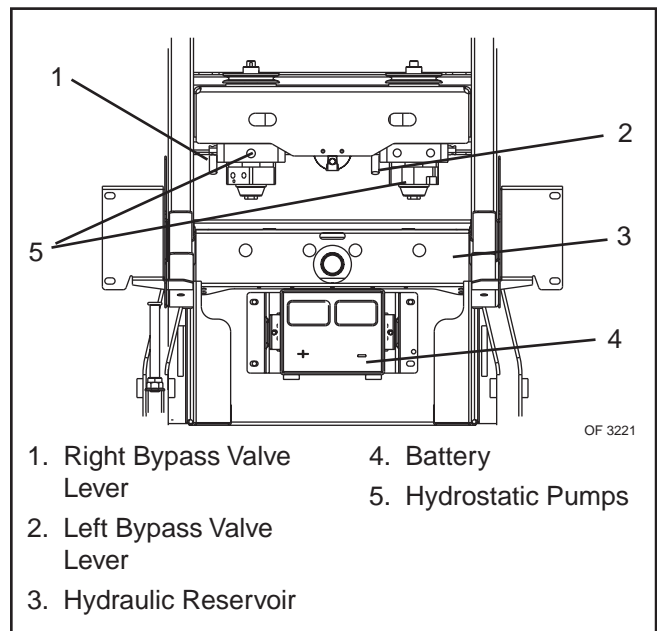

Figure 5
2. Turn right and left bypass valve levers counter clockwise 1/2 turn (Figure 5).